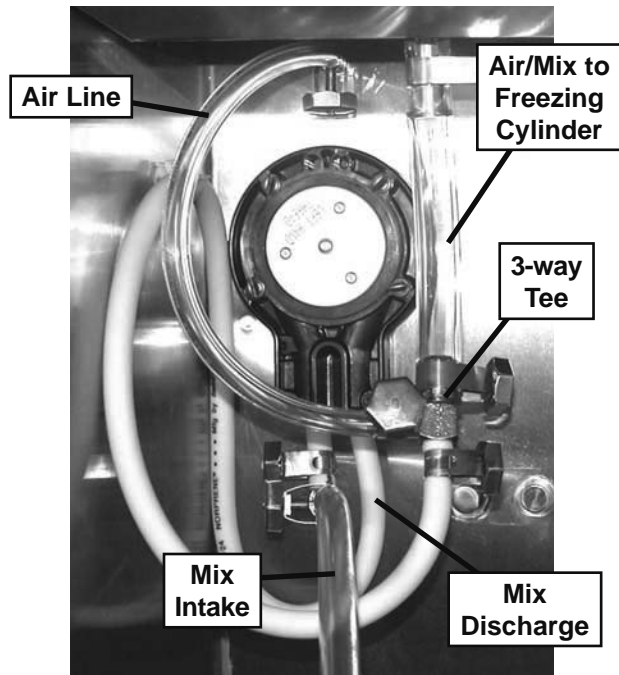

Figure 3-10 Mix Pump Hose Routing
- A. **Mix Operation:** The peristaltic mix pump contains one continuous mix pump hose. When looking at the face of the peristaltic mix pump, the left side of the hose is the mix intake or pickup. The right side of the hose is the mix discharge. Mix is drawn up the pickup side of the hose and transferred through the discharge side to the machine (Fig. 3-10).